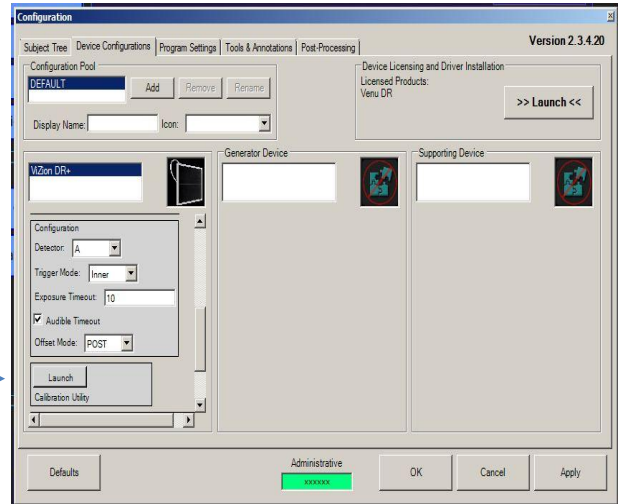

Figure 8
7. Scroll down the list further, locate the calibration utility section, click **Launch** to begin the **Calibration Wizard**. **Figure 8**